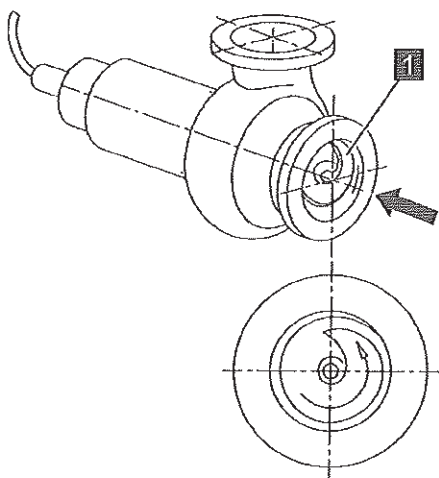
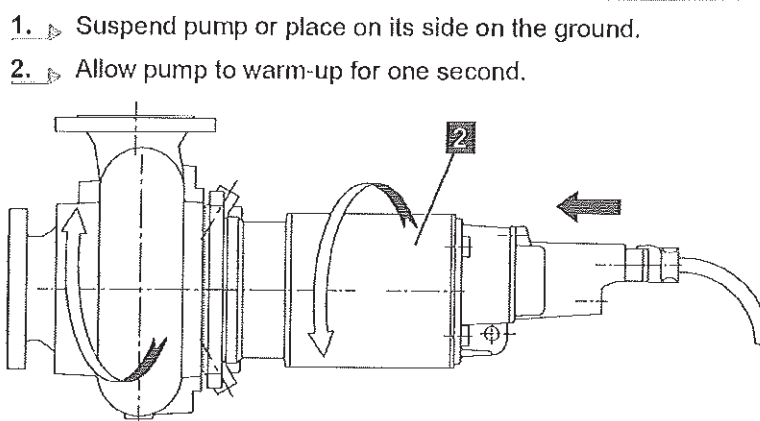

Fig. 31
Fig. 32
3. ▶ Ensure that rotational direction of impeller (1) is counter clockwise as seen from suction end (Fig. 31). The starting jerk must act counter clockwise as seen from the drive end of the motor (2) (Fig. 32).